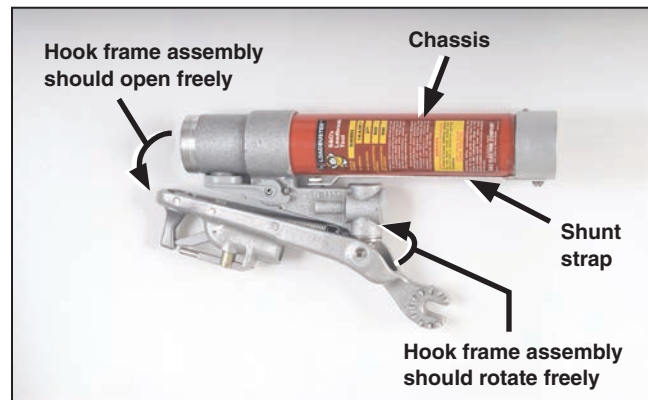

Figure 26. Inspect the chassis.
STEP 22. Inspect the chassis. Clean the chassis with a cloth and household detergent to remove grease or dirt. DO NOT soak the chassis in water or detergent solution. Replace the shunt strap if it is badly burned. Check the hook frame assembly springs to make sure they are in good condition and hold tension. Replace the springs if necessary. The hook frame assembly should move approximately 65 degrees “in and out” and “side to side” approximately 35 degrees in each direction. Contact the local S&C Sales Office if the chassis does not rotate properly. Replace any missing or faded product labels. See Figure 26.